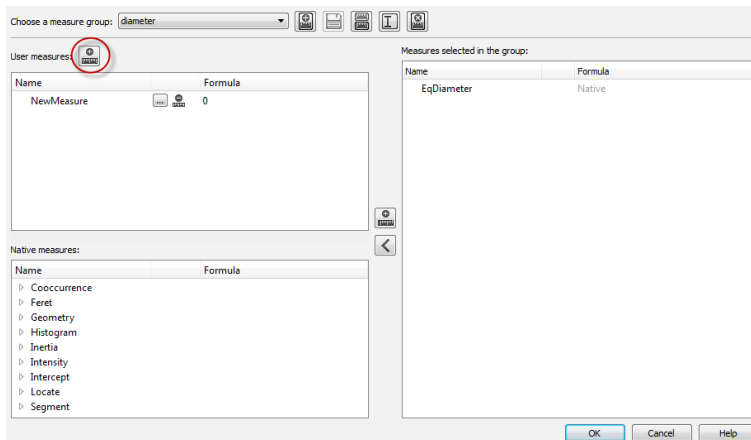

Figure 4.54: User measures definition button
- Create a user measure by pressing the dedicated button (see Figure 4.54).